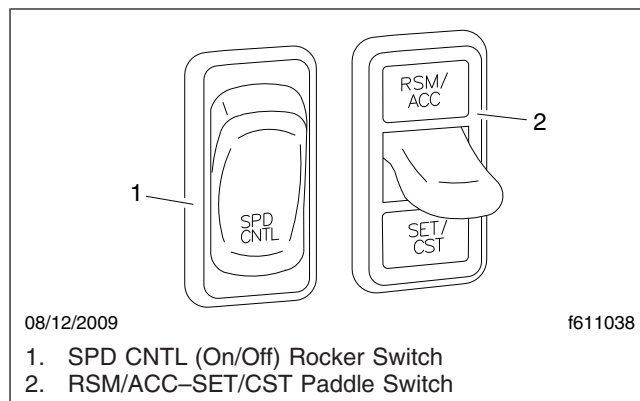
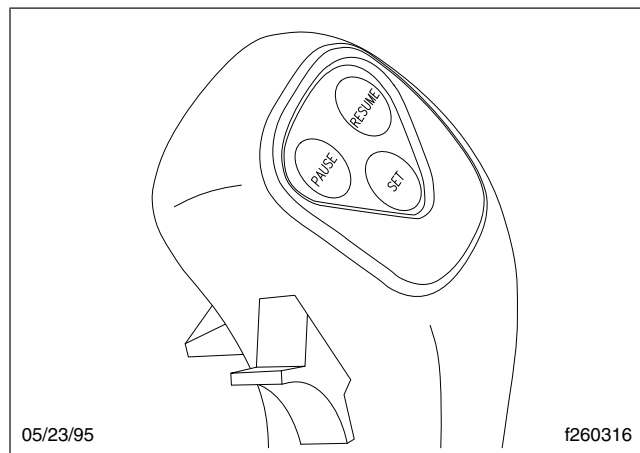

Fig. 10.3, Cruise Control Switches, Dash-Mounted
Fig. 10.4, Cruise Control, Transmission Shift Knob Buttons
The cruise control is activated by the SPD CNTL (on/off) and RSM/ACC–SET/CST switches on the dash (Fig. 10.3), or by optional PAUSE, RESUME, and SET buttons on the transmission shift knob (Fig. 10.4). The minimum speed at which cruise control can be used is 30 mph (48 km/h). The minimum and maximum speed cruise control set limits can be programmed, by authorized personnel, into the engine electronics.
- Remove your feet from both the clutch and throttle pedals. Press the dash-mounted ENG BRK switch to toggle the engine brake ON. See Fig. 10.4.